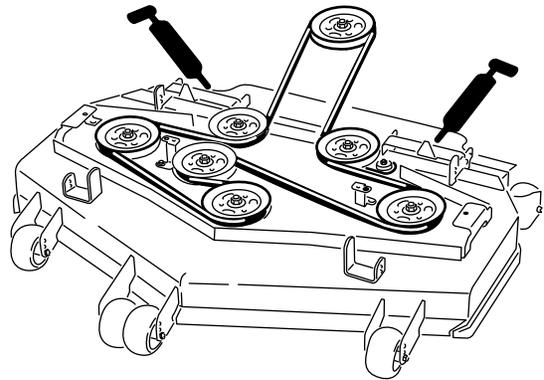

Figure 42
6. Grease the fittings on the push arms (Figure 42).